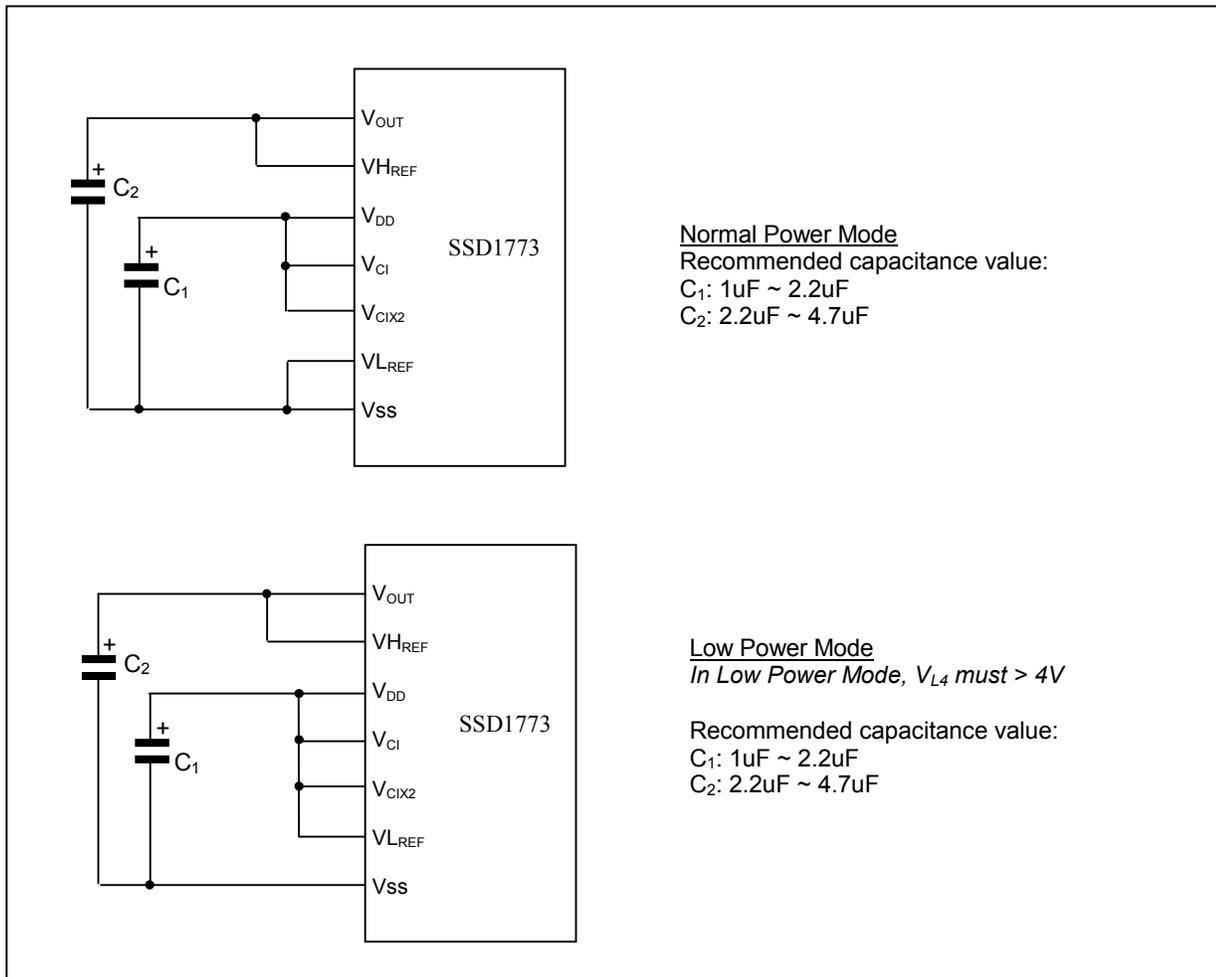

Figure 5 - SSD1773 Hardware configurations
2. Bias Divider - If the output op-amp buffer option in Set Power Control Register command is enabled, this circuit block will divide the regulator output (V_{OUT}) to give the LCD driving levels ($V_{L2} - V_{L5}$). The divider does not require external capacitors to reduce the external hardware and pin counts, power configuration of op-amp is shown on Figure 5.
5. Self adjust temperature compensation circuitry - Provide 4 different compensation grade selections to satisfy the various liquid crystal temperature grades. The grading can be selected by software control. Defaulted temperature coefficient (TC) value is $-0.20\%/^{\circ}\text{C}$.